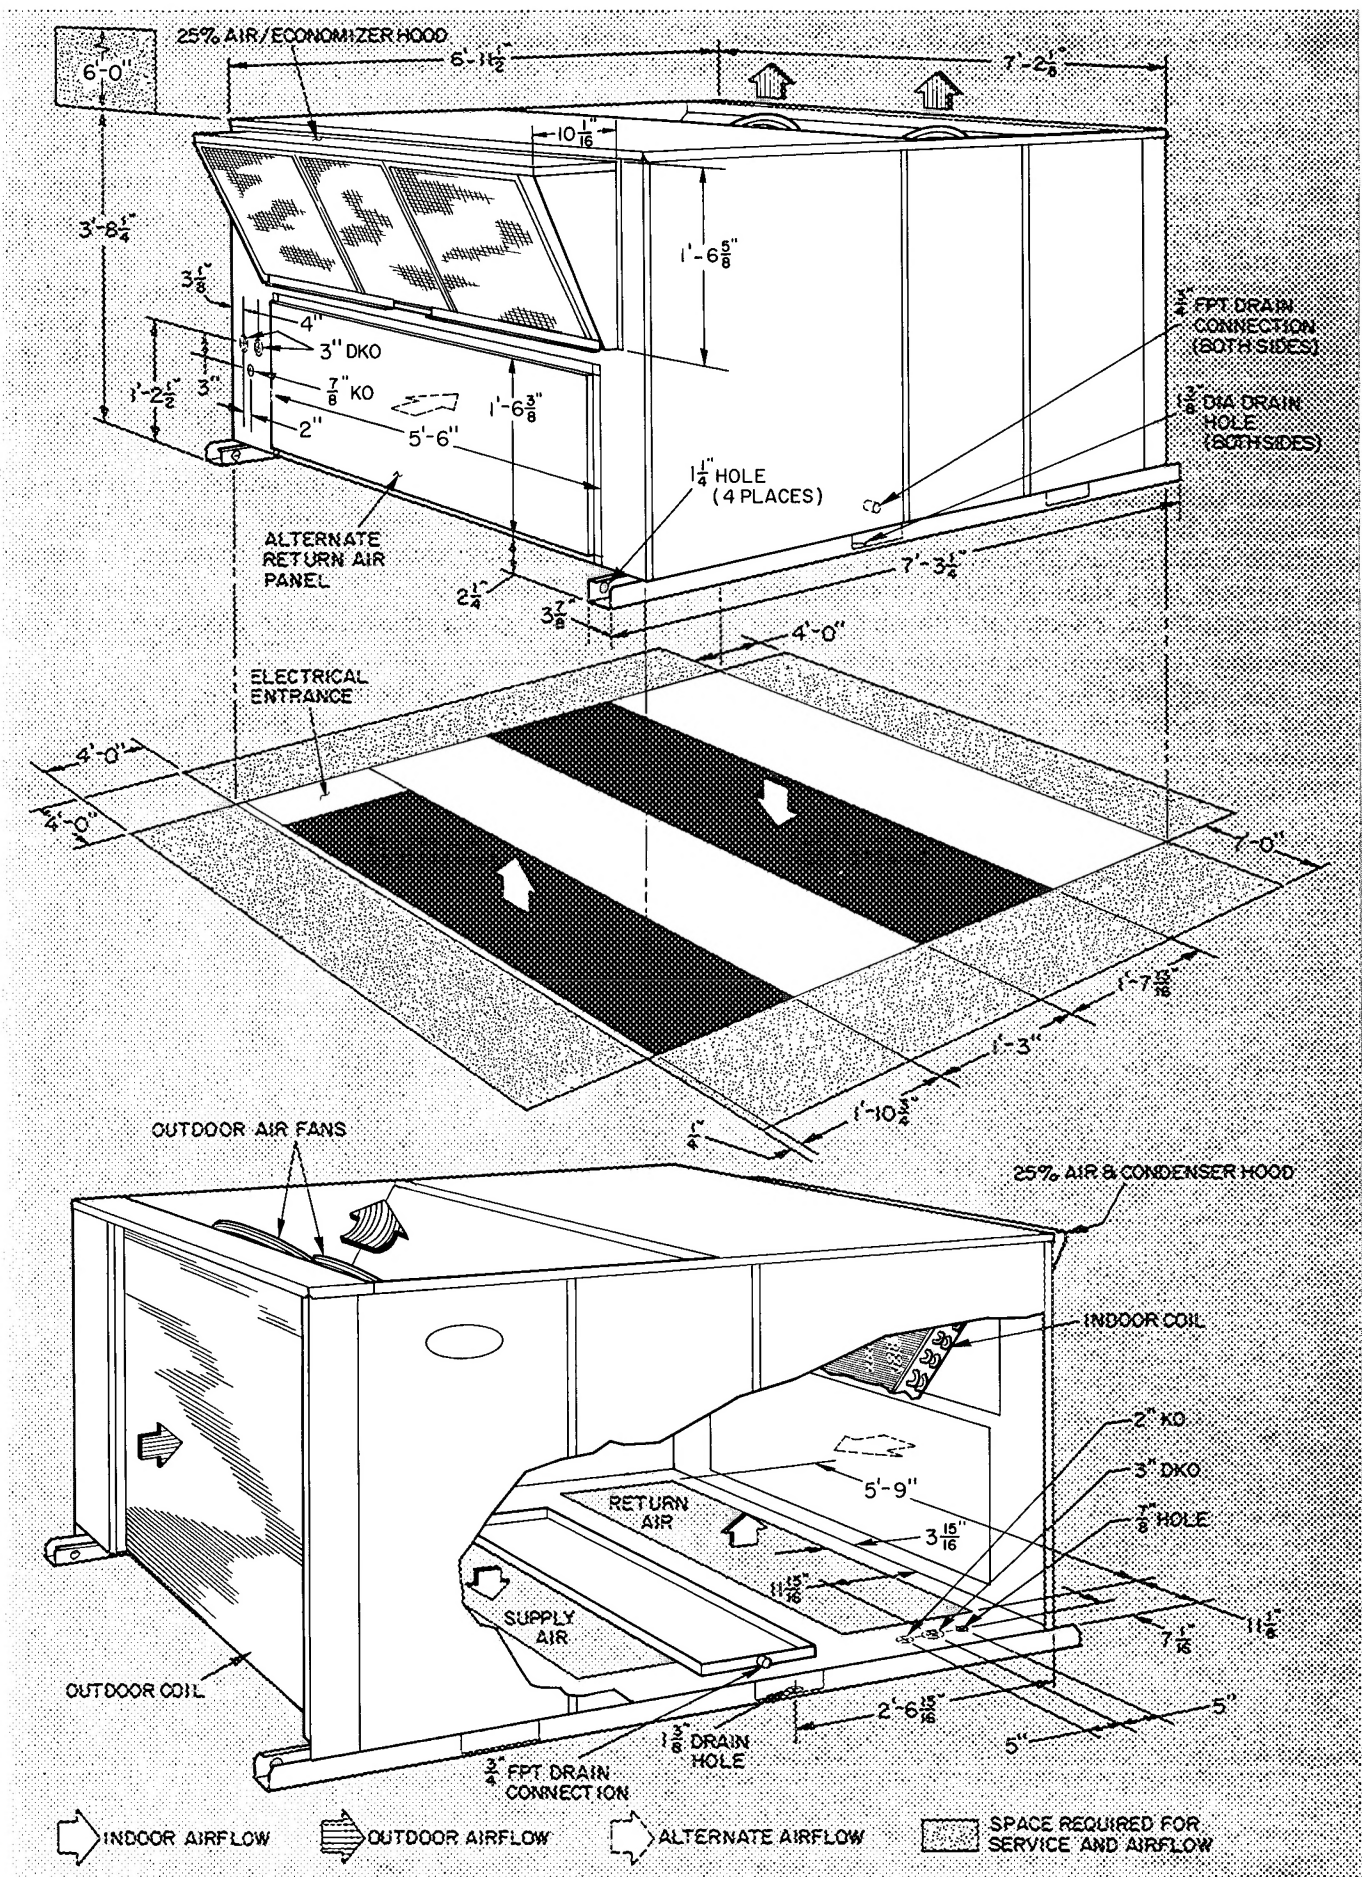
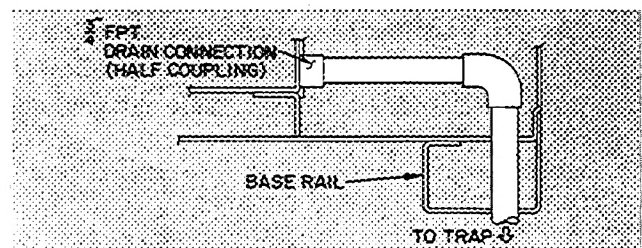
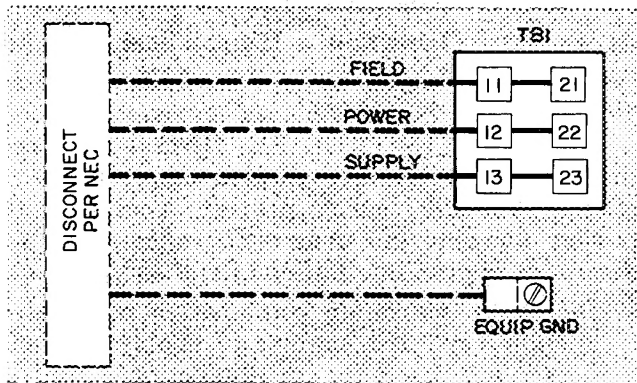

Fig. 3 — Physical Data and Dimensions
Fig. 9 — Condensate Drain Piping Details
Fig. 10 — Field Power Wiring Connections
**Outdoor Air Hood Installation** (Fig. 3) — The outdoor air hood is common to 25% air ventilation and economizer. The economizer and all electrical connections are factory installed and adjusted. The hood assembly, outdoor air inlet screen(s) and required hardware are shipped in a carton located on outdoor fan section and must be field installed.
**Condensate Drain** — See Fig. 3 and 8 for drain locations. Two 3/4-in. half couplings are provided inside the unit evaporator section for the condensate drain connection(s). An 8-1/2 x 3/4-in. diameter and 2-in. x 3/4-in. diameter pipe nipple coupled to standard 3/4-in. diameter elbows provide a straight path down thru holes in the unit base rails (see Fig. 9). A trap of at least 4 in. deep must be used and must be protected against freeze-up. If only one drain connection is trapped, other connection must be plugged.
Route power lines thru control box end panel — or unit basepan — (Fig. 3) to terminal connections as shown on unit wiring diagram and Fig. 10.